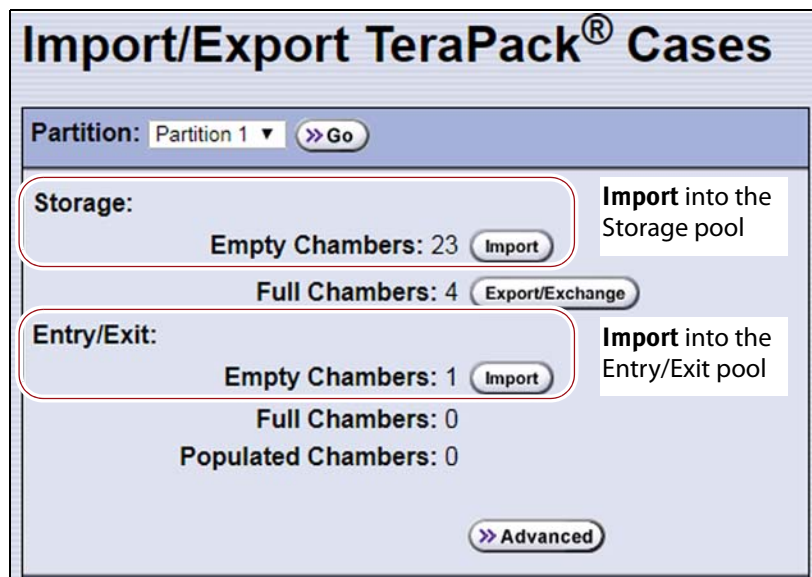

Figure 138 Click **Import** for the desired destination (storage partition shown).
- If you plan to import cartridges directly into the partition's storage pool, make sure that the storage pool has an empty chamber for each magazine you plan to import. The partition's Import/Export TeraPack Cases screen shows the number of empty chambers available in the partition's storage pool (see Figure 138 on page 233). If there are no empty chambers available in the storage pool, export one or more magazines from the storage pool (see Export Magazines from a Partition on page 237).